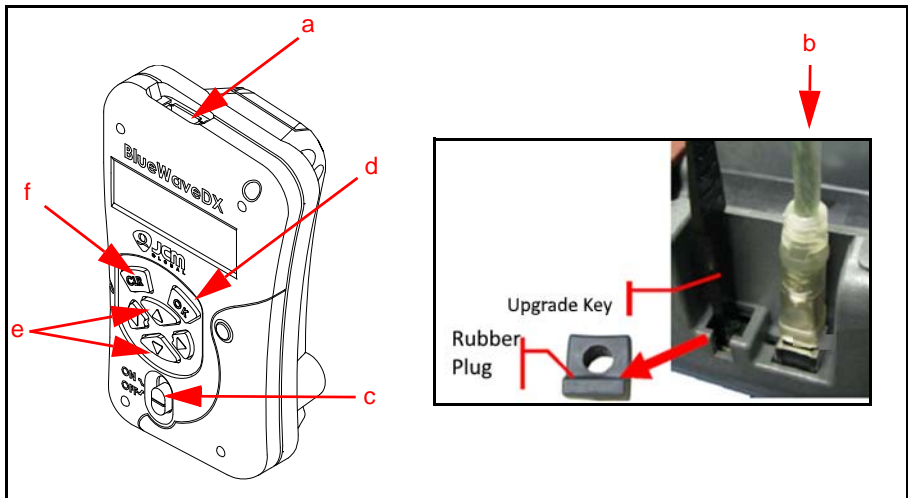

Figure 15 BlueWaveDX Tool Primary Controls/GEN2U USB Update Port
1. Connect a standard USB Male "A" to Male "B" cable from the BlueWaveDX Tool's USB Connector Type A (Figure 15 a) to the GEN2U Printer's USB Update Port (Figure 15 b).
2. Turn the BlueWaveDX Tool's Power Switch ON (Figure 15 c).
3. When the Firmware Update screen appears, press the OK Button (Figure 15 d).
4. Press the UP and DOWN arrow keys (Figure 15 e) to scroll through the list of available GEN2U Firmware versions.
5. Press the OK Button (Figure 15 d) to select the desired Firmware version.
7. When the Download Complete message is displayed, press the CLR Button (Figure 15 f) to return to the Main Menu
- Press the OK Button (Figure 15 d) to download Firmware to another Printer.